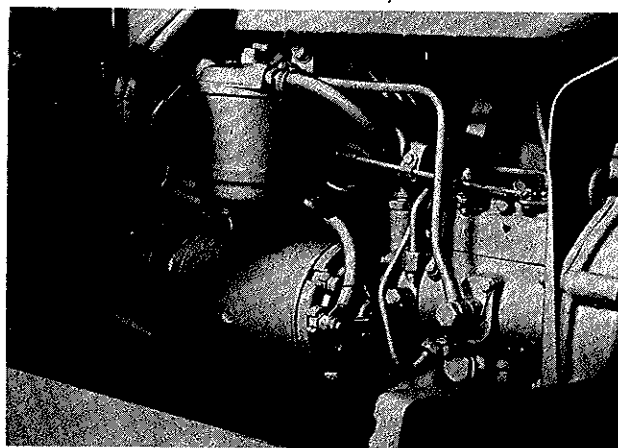

Fig. 3
4. **Starter motor. Remove.** Remove the leads from the starter motor and identify them. Remove the starter mounting bolts. Withdraw the starter motor from the engine (fig. 3).